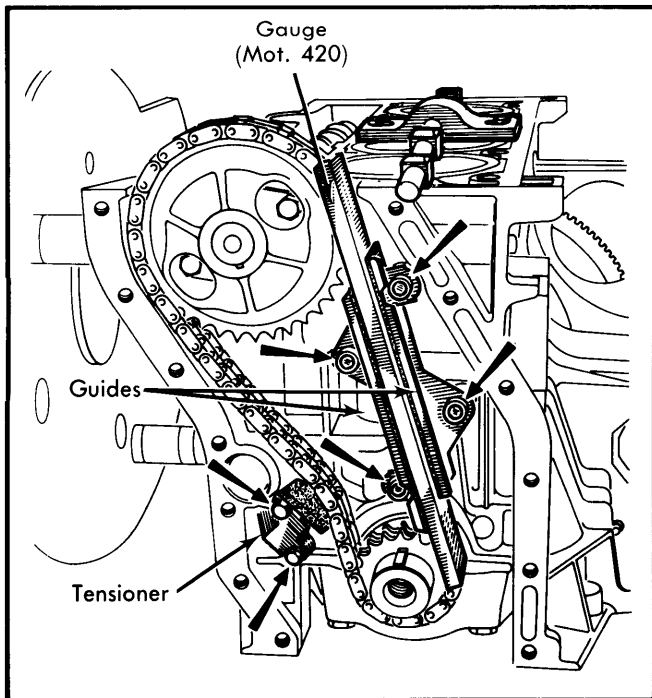

Fig. 9 Adjusting Timing Chain Tension Using Gauge. Broad Arrows Indicate Tensioner & Guide Bolts.
4) Install chain guides. If chain gauge (Mot. 420) is available, place on the chain. Push the 2 guides against the gauge, tighten bolts and remove the gauge. See Fig. 9. If gauge is not available, stretch the chain and position the guides so there is